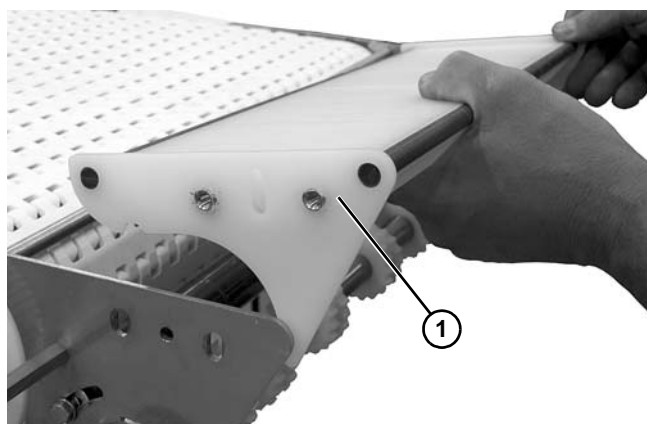

Figure 66
9. Remove the wear bar assembly (**Figure 66, item 1**) from the power transfer.